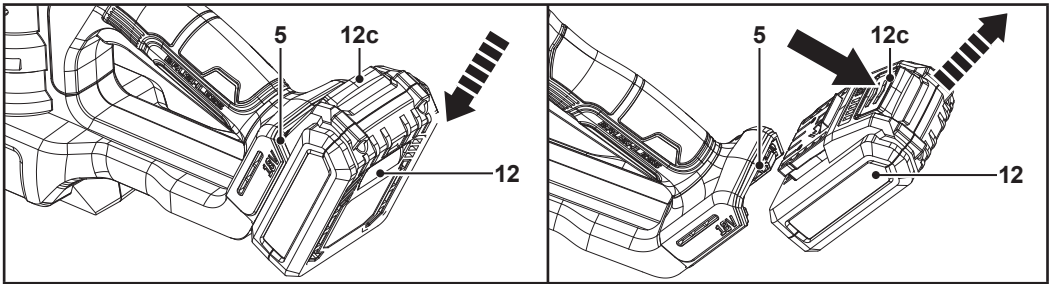
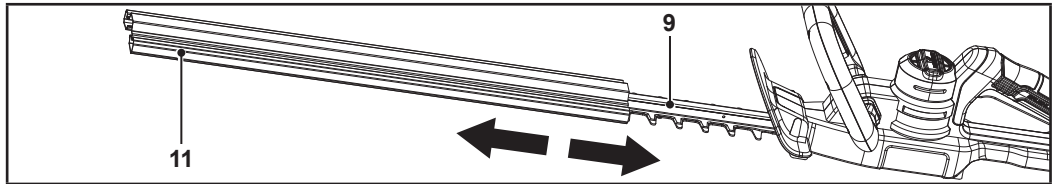

Fig. 2
Fig. 4
Blade cover (11): When the machine is not in use, remove the battery pack (12) (Fig. 2) and put the blade cover on the blade (9) (Fig. 4). Doing so, you protect the blade, avoid cutting injuries and damage to other objects.
Attaching: Align the battery pack (12) with the battery docking port (5) and slide it in. Make sure it clicks in place (Fig. 2).
Removing: Press the release button (12c) and remove the battery pack (12) from the battery docking port (5) (Fig. 2).
Removing: Slide the blade cover (11) from the blade (9) (Fig. 4).
Attaching: Slide the blade cover (11) on the blade (9) (Fig. 4).